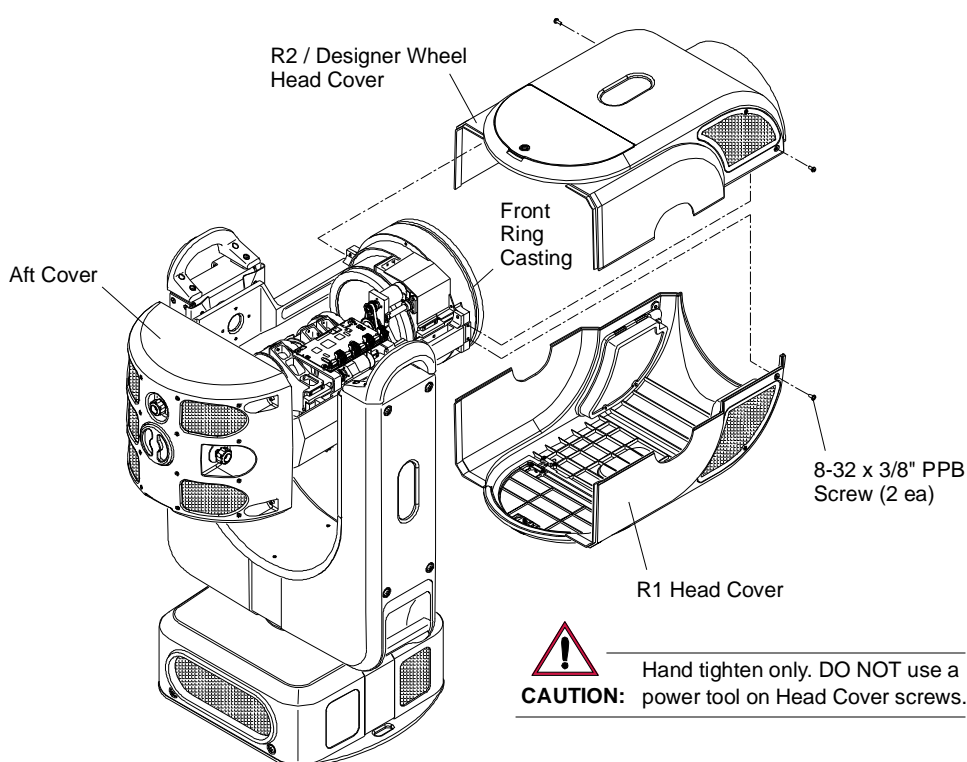

Figure 4-1: Removing Head Covers
Step 1. At Head Cover, remove two 8-32 x 3/8" PPB screws (**Figure 4-1**).